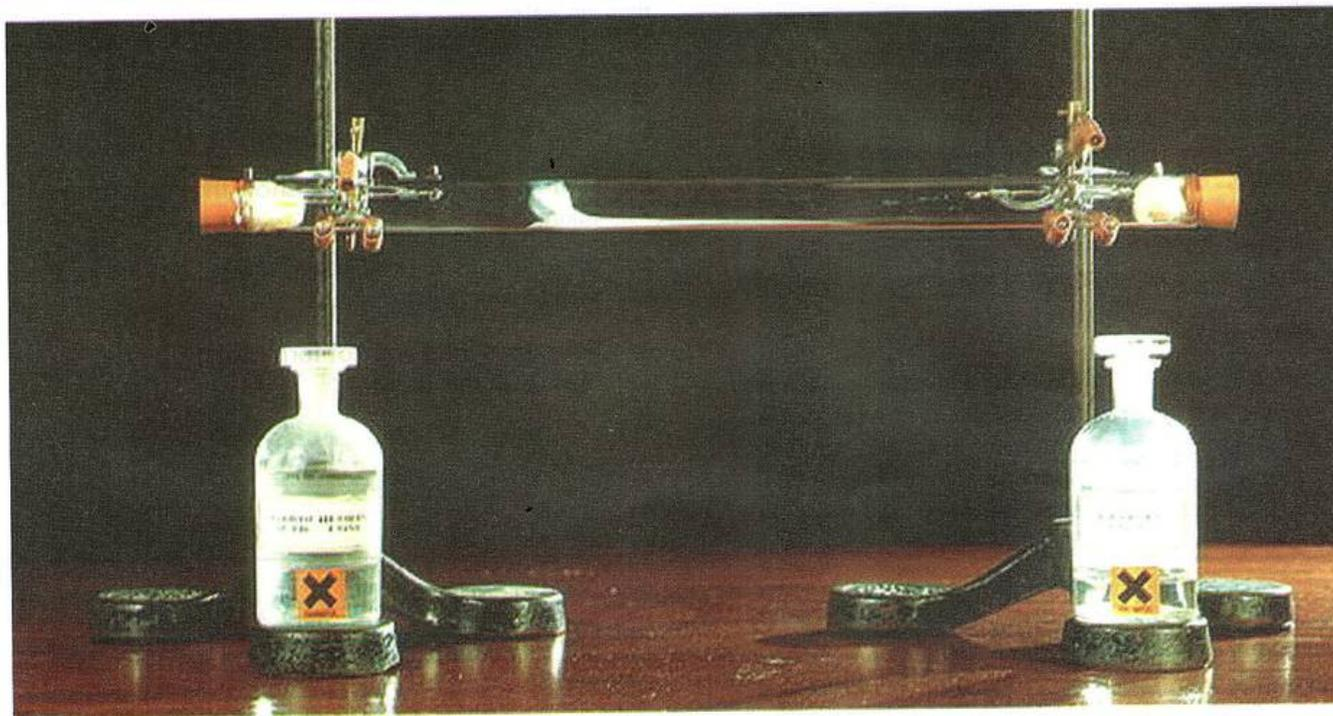

Figure 1.21: Ammonia and hydrochloric acid fumes diffuse at different rates.
Not all gases diffuse at the same rate. The speed at which a gas diffuses depends on the mass of the particles involved. At the same temperature, molecules that have a lower mass move, on average, faster than those with a higher mass. This is shown by the experiment in Figure 1.21. The ammonia and hydrochloric acid fumes react when they meet, producing a white smoke ring of ammonium chloride. This smoke ring is made of fine particles of solid ammonium chloride. The fact that the ring is not formed halfway along the tube shows that ammonia, the lighter molecule of the two, diffuses faster.
- 9 A teacher carried out a class demonstration on diffusion similar to that using ammonia ($M_r = 17$) and hydrochloric acid ($M_r = 36.5$) (Figure 1.21). However, they replaced the ammonia with methylamine ($M_r = 31$), which reacts in a similar way to ammonia (note that M_r is the relative molecular mass of the substance).